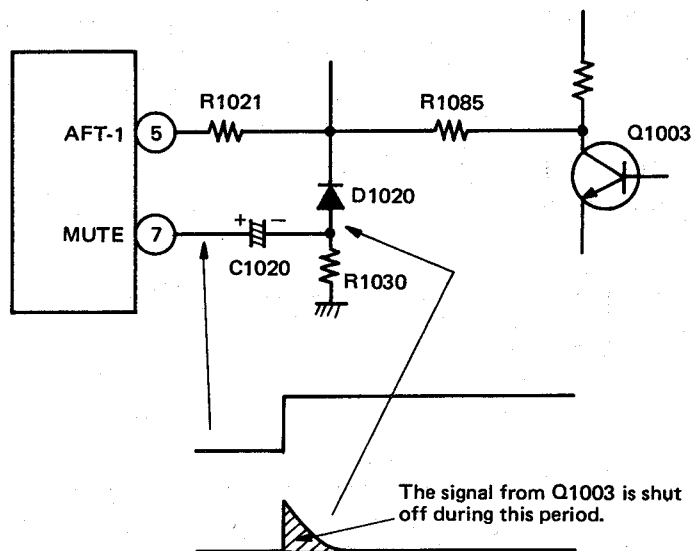

Figure 10.
If the search is started once TV signal has been received and memorized in the memory, a pulse is caused to enter pin ⑤ (AFT-1) of I1001 (Figure 10). As the result, the search can stop even when there is no TV signal in reception.